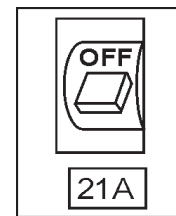

Figure 3. Main Circuit Breaker (OFF)
2. **NEVER** start the engine with the main circuit breaker in the **ON** position. Always place the main circuit breaker (Figure 3) in the **OFF** position before starting.
- Place the main circuit breaker (Figure 3) in the **OFF** position.